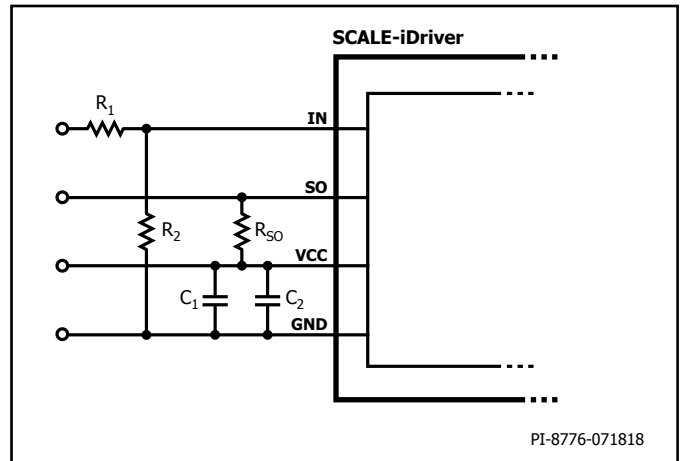
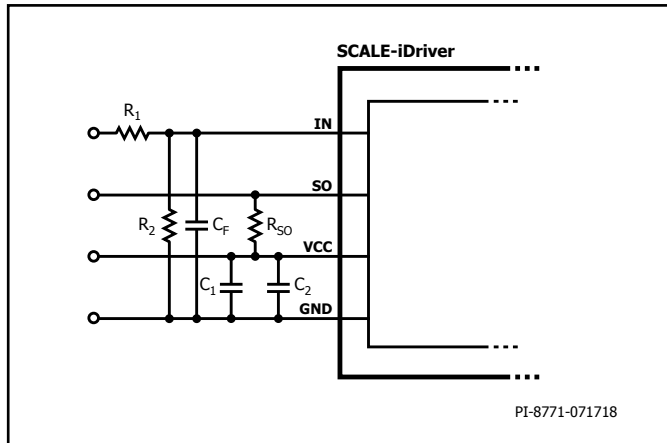

Figure 6. Recommended Circuitry for Increased IN Logic Levels.
Figure 7. Primary-Side of Example Circuitry.
If the physical distance between the controller and the SCALE-iDriver is large a line driver is recommended or increase the logic level to 15 V. For 15 V logic level, the resistive divider in Figure 6 is recommended. This solution adjusts the logic level as necessary and will also improve driver's noise immunity.
For the input the circuitry of Figure 6 is recommended, when using 15 V input logic. R_1 and R_2 represent a voltage divider to get a 5 V signal at the IN pin. If additional filtering is required a capacitor C_F can be placed in parallel to R_2 as depicted in Figure 7. The time constant τ can be calculated by Equation (1). In case direct 5 V logic is used at the IN pin, R_2 is recommended at any case and R_1 can be reduced to 100 Ω .